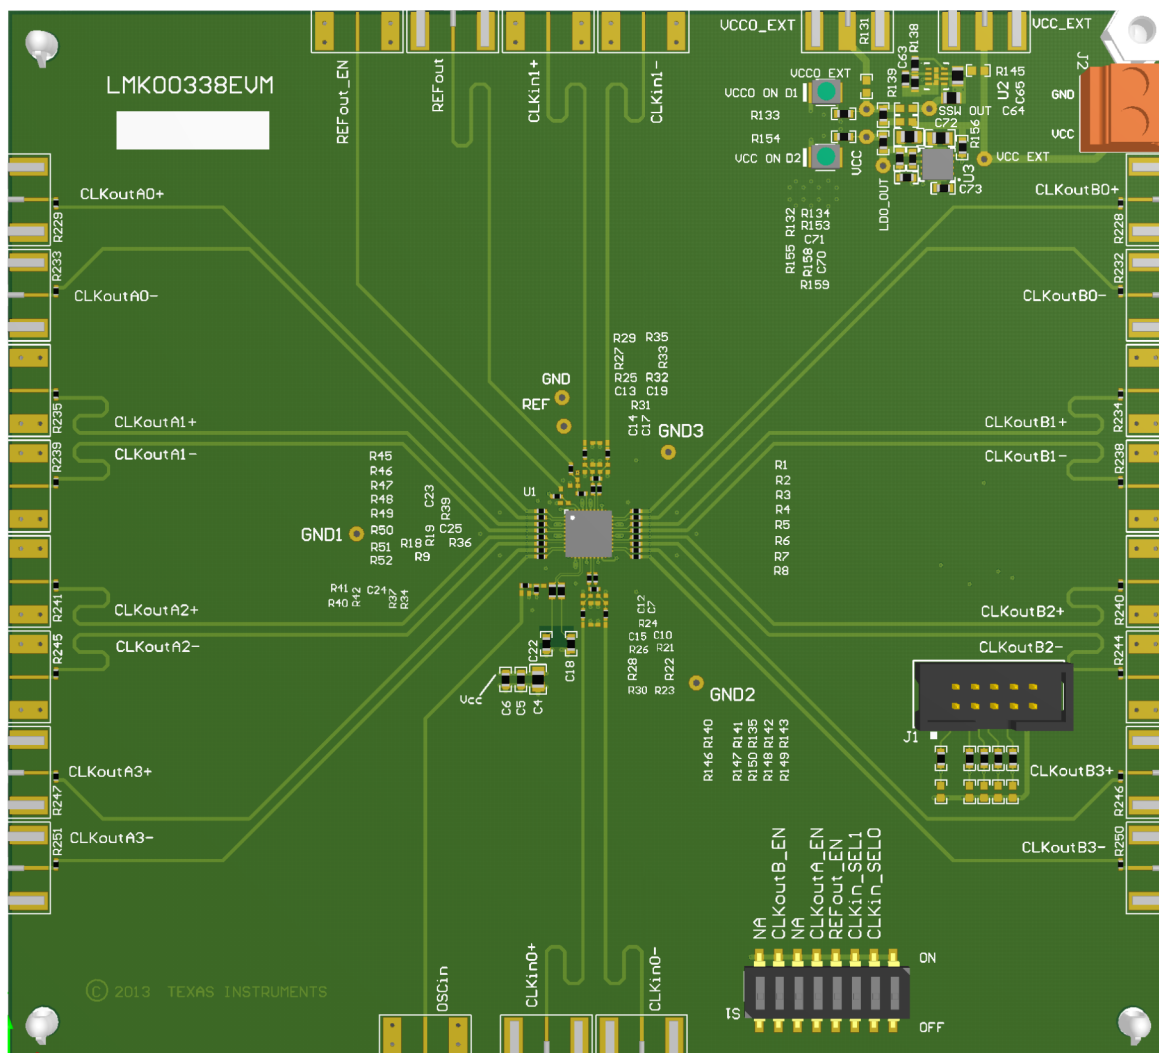

Figure 24. LMK00338 Layout Example
- For DC coupled operation of an HCSL driver, terminate with $50\ \Omega$ to ground near the driver output as shown in Figure 24.